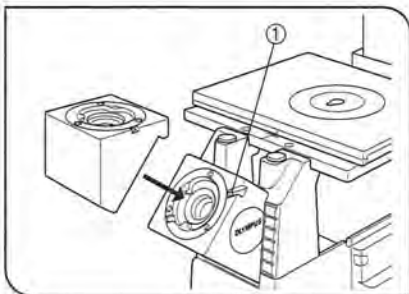
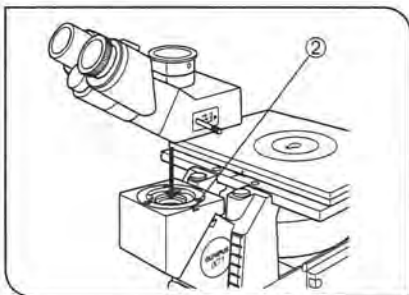

Fig. 98
Fig. 99
(Figs. 98 & 99)
1. Using the Allen screwdriver, loosen the observation tube clamping screw ① on the observation tube mount. (Fig. 98)
2. Insert the circular dovetail mount of the intermediate tube into the observation mount so that its upper surface is flush with the microscope frame. Tighten the observation tube clamping screw ① to clamp the intermediate tube.
3. Using the Allen screwdriver, loosen the observation tube clamping screw ② on the intermediate tube's observation tube mount. (Fig. 99)
4. Insert the circular dovetail mount of the observation tube into the intermediate tube's observation tube mount so that the binocular eyepiece sleeves face toward the front. Then tighten the observation tube clamping screw ② firmly. (Fig. 99)